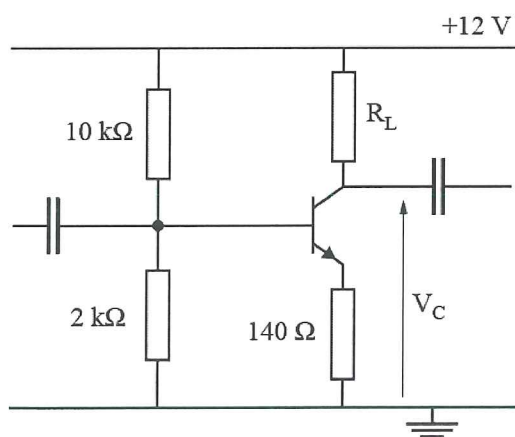

Fig Q3
- (a) the steady state relay current; (2)
- (b) the time constant for the coil; (4)
- (c) the inductance of the coil. (4)
- (d) To increase the operating time of the relay, a $50\ \Omega$ resistor is connected in series with the coil. (4)
- Calculate the new operating time for the relay. (6)
3. The p.d. across the base emitter junction of the silicon transistor shown in Fig Q3 is $0.6\ \text{V}$ and the output voltage V_C is $4\ \text{V}$.